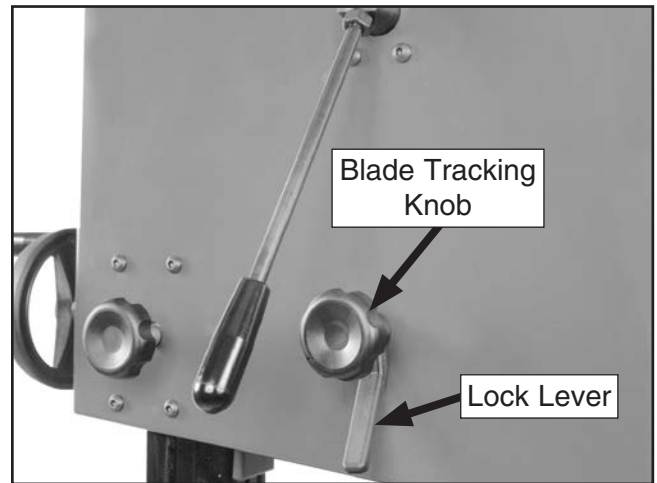

Figure 31. Blade tracking controls.
- Loosen the lock lever (**Figure 31**) so that the blade tracking knob can rotate.